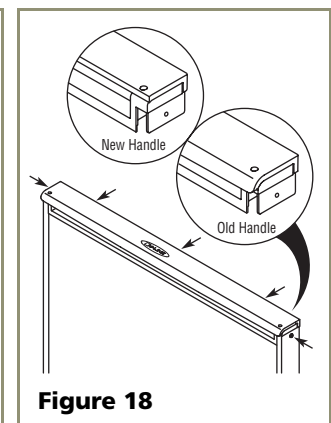

Figure 18
4. Remove the three screws located on the back of the handle (see **Figure 18**).